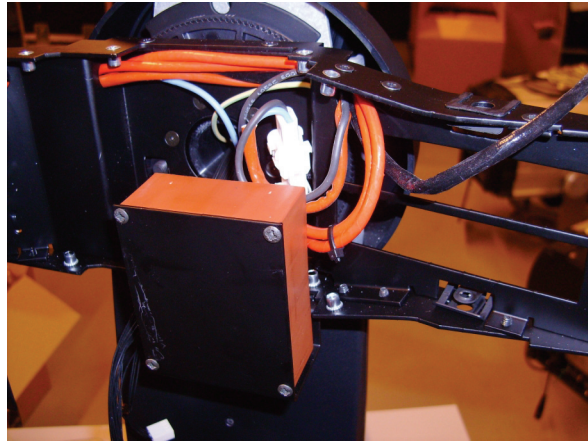

Figure 60
65. See Figure 60. Fasten the ignitor in its mounting bracket re-using the original four screws. Connect the ignitor input connector. Secure wiring with cable ties.
Important! Pull the lamp leads back towards the ignitor so that the only place where there is slack in the leads is next to the ignitor, as shown in Figure 60.